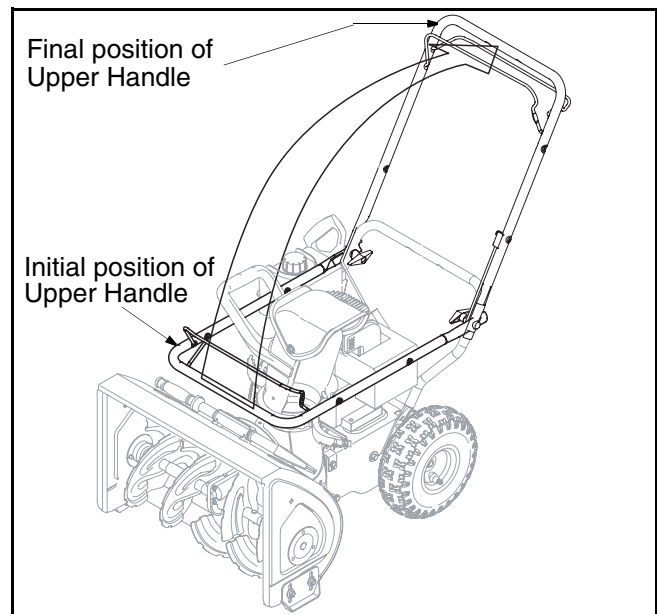

Figure 3
- Hold both controls against the upper handle and pull up as shown in Figure 3. Make sure that the upper handle locks over the lower handle and the handle tabs align with the handle. You may have to carefully maneuver the upper handle to clear the chute assembly.